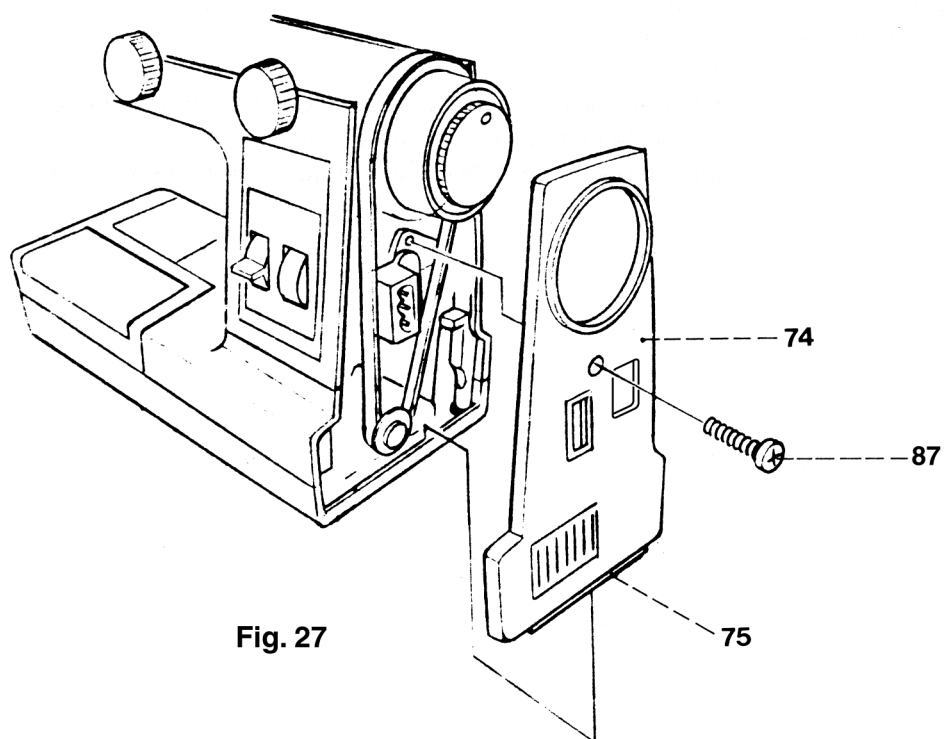

Fig. 27
- Turn out screw 87 (fig. 27).